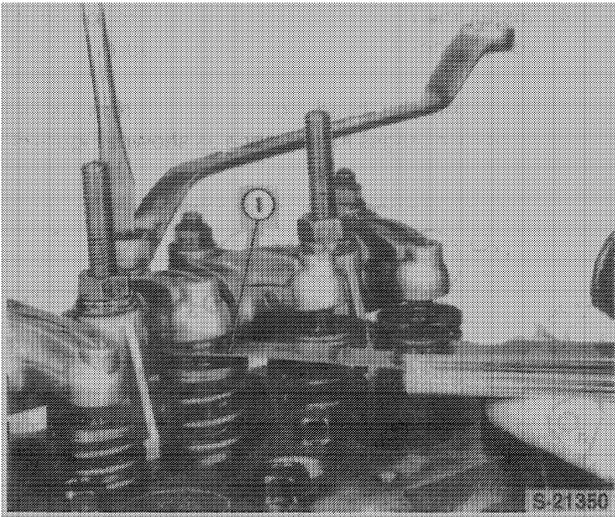

Figure 51
8. Adjust the rocker arm clearance, Figure 51. Be sure the tappets are in their lowest position before making the adjustment as follows: